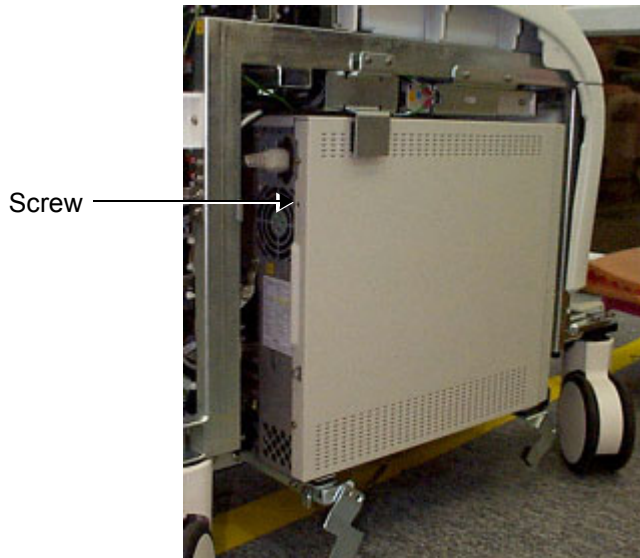

Figure 8-57 BEP1 - Side Cover Screws
- 1) Remove the two screws that hold the cover in position (refer to Figure 8-57 below).
- 2.) Replace and tighten the two screws to hold the cover firmly in position (refer to Figure 8-57, above).